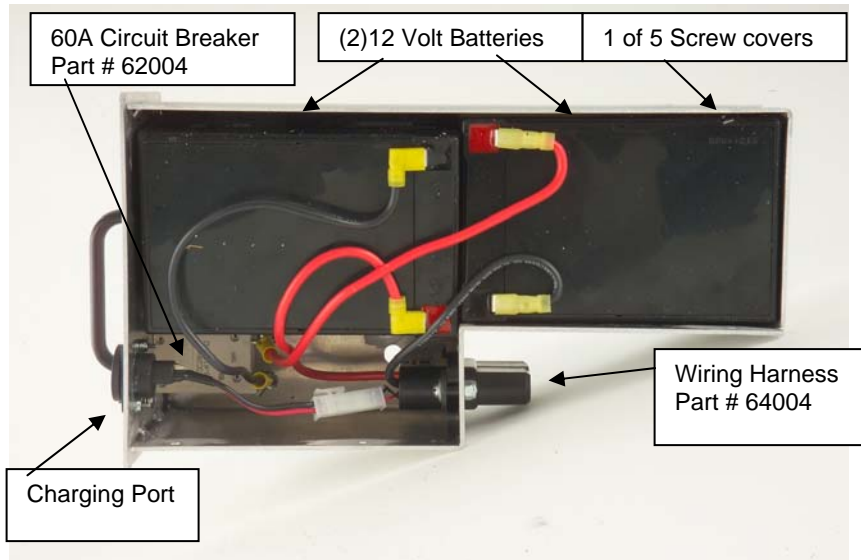

Fig. 7b
- 5) The 60 amp circuit breaker (Part # 62004) (Fig. 7b) is located on the handle side at the bottom. Remove by unscrewing the thin outside nut. Then the black and red leads are disconnected via two screws.